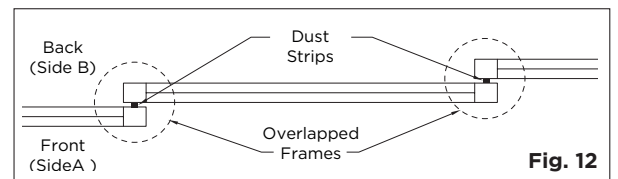

Fig. 12
1. Determine the layout of your panels so that you know where to install the Dust Prevention Strips. Strips are used where frames overlap. See Figure 12.